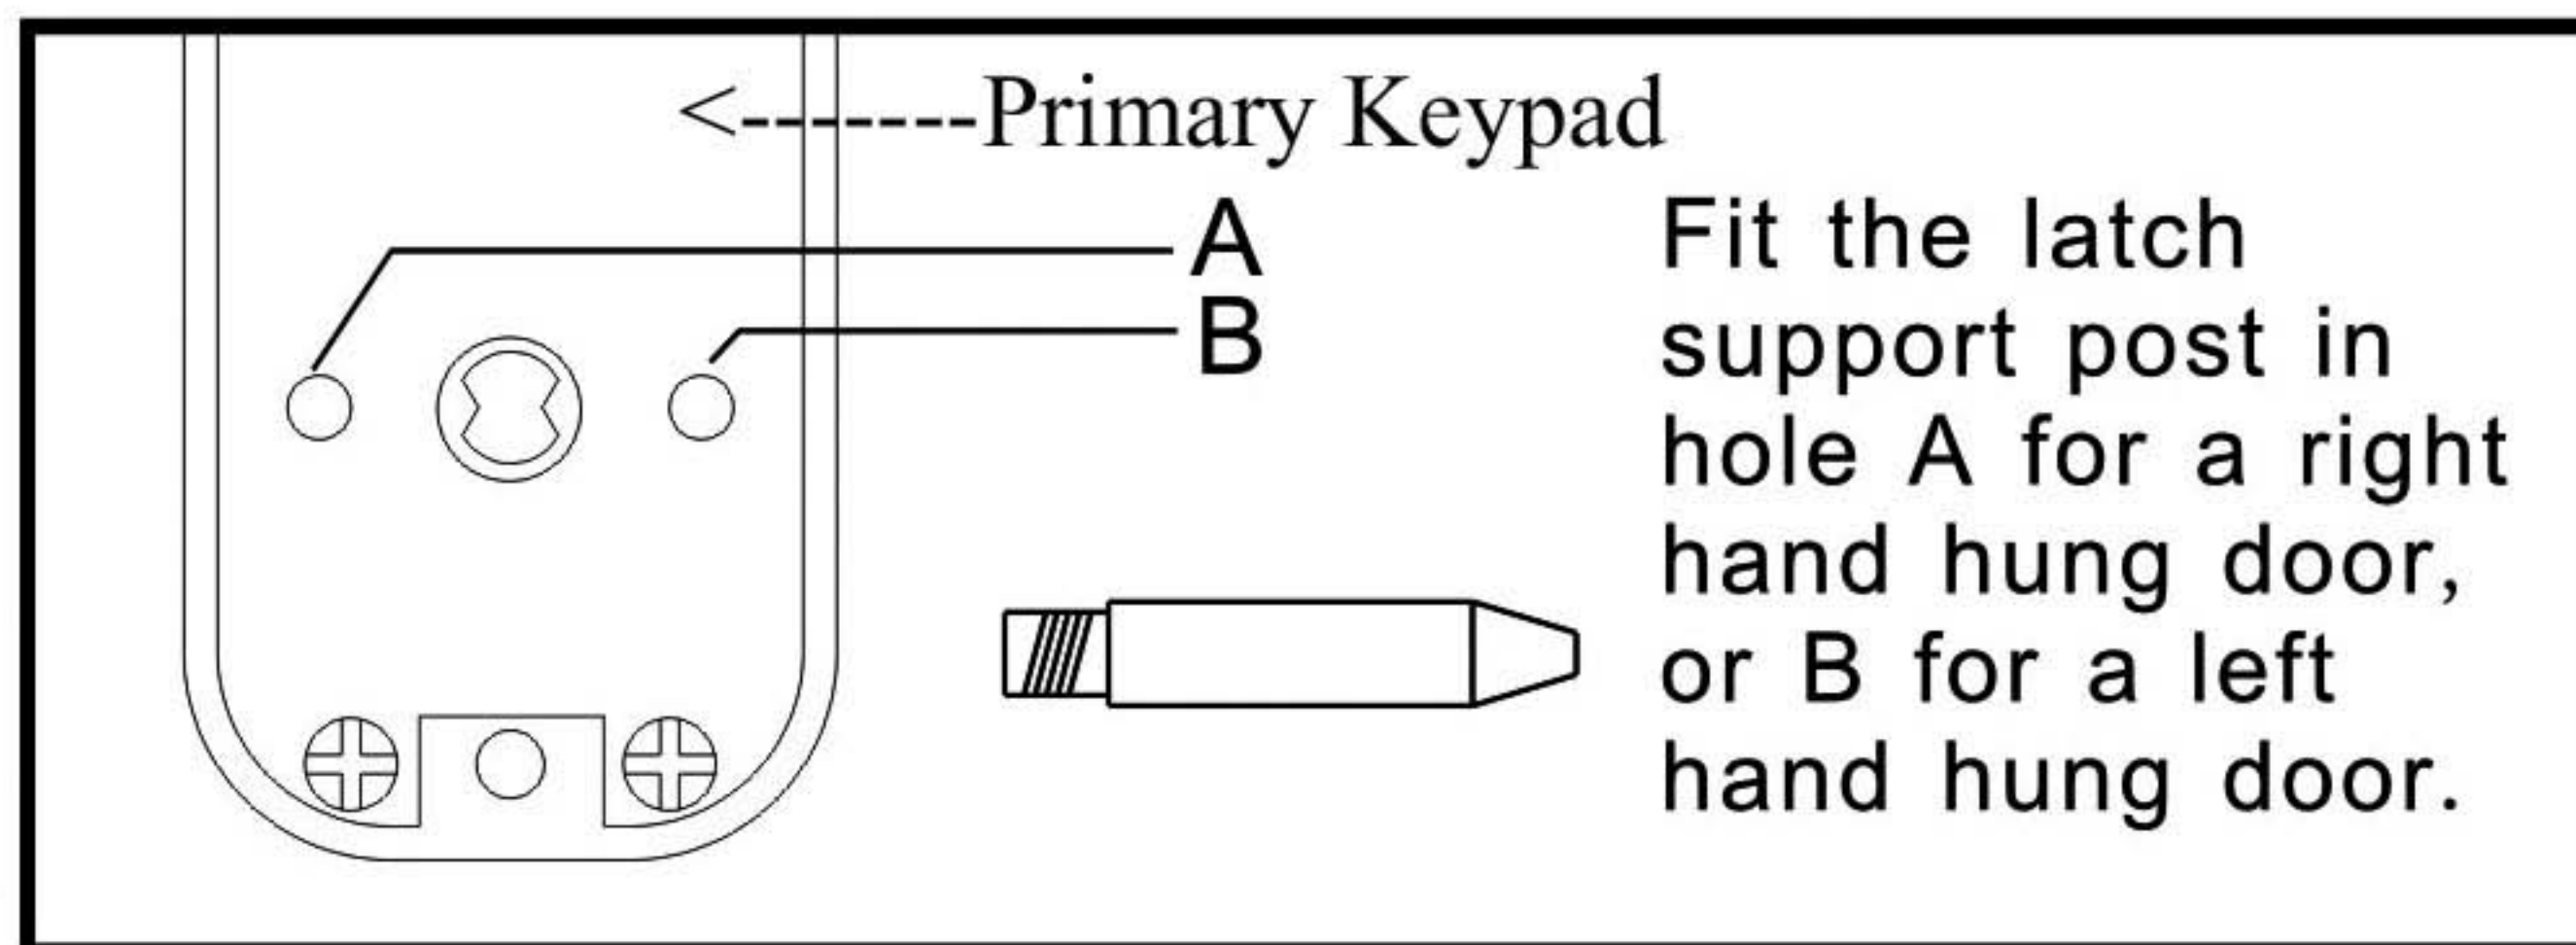

Fig.6
8. Install latch support post(part#7) to the Primary Keypad as shown in Fig.6.